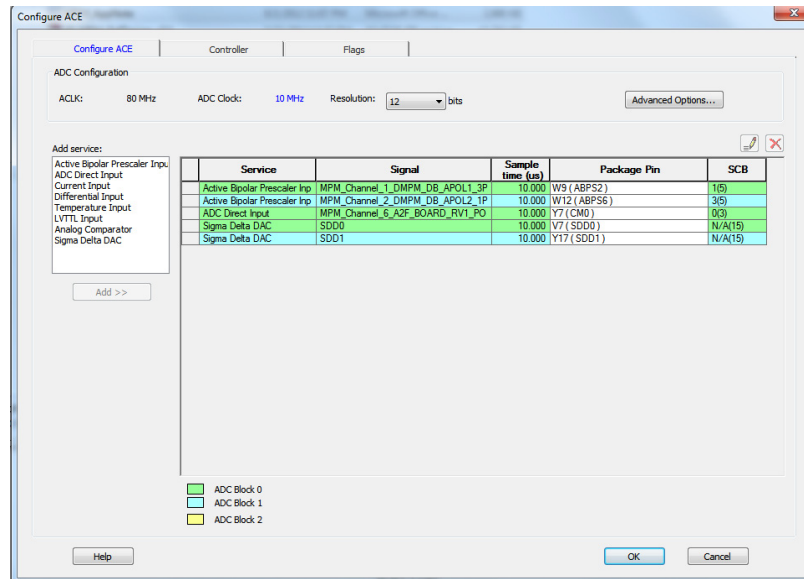

Figure 15 • ACE Configurator Before Adding a Service
- Double-click the ACE block to configure. It looks similar to Figure 15.